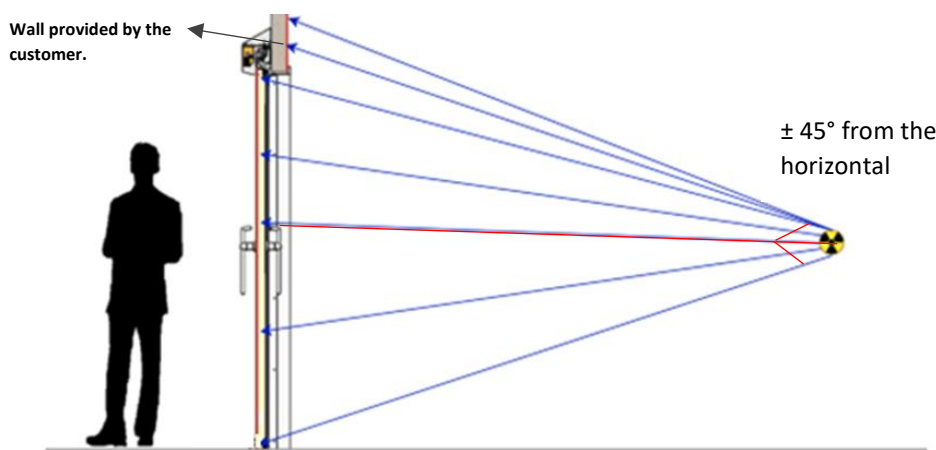

Figure 1 A Metaflex Medicare door providing radiation protection.
1. The source of the radiation (primary source) is Static and located at least one (1) meter away from the front of the door and one (1) meter above the floor (centered to the door).
2. The radiation must reach the door below ($\pm 45^\circ$ from the horizontal) (see figure1).
The figure 1 shows how the Medicare door system provides protection against radiation in an enclosure which has a source of radiation for radiological application.